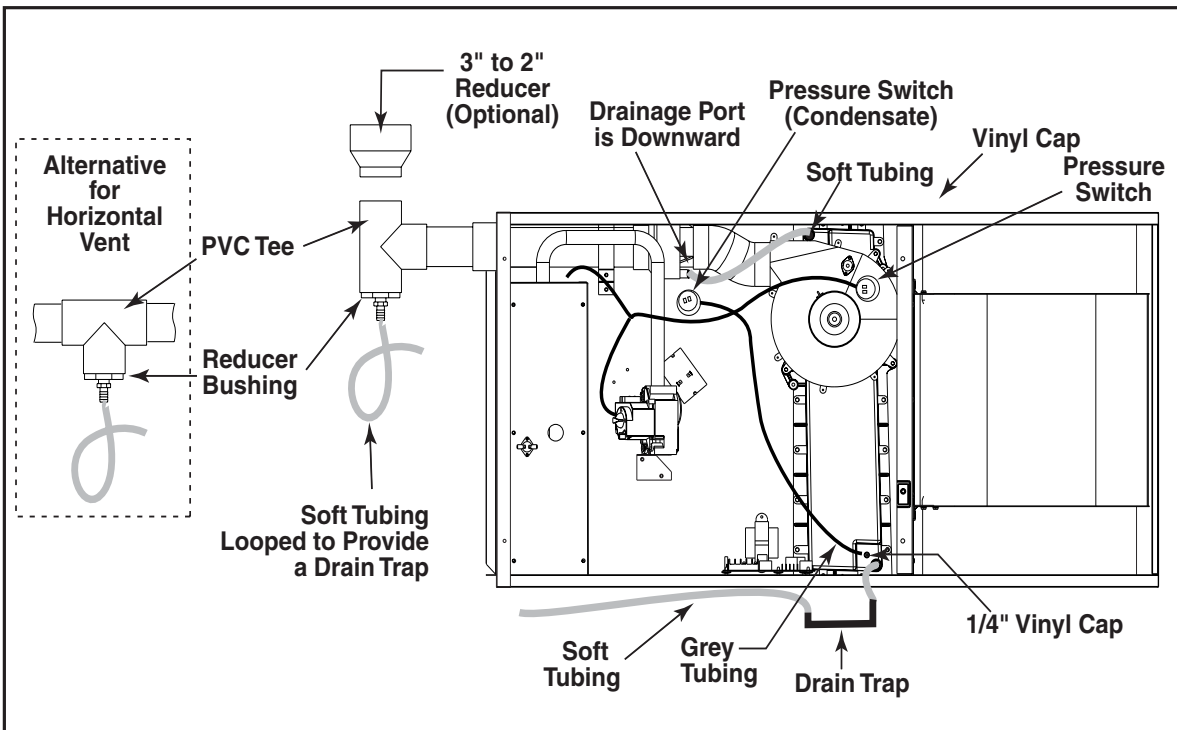

Figure 4. 90+ Upflow Converted for Horizontal Installation (Horizontal Left)
**NOTE:** When converting the furnace, to horizontal left, ensure that the drainage port on the in-line drain assembly is downward as shown in Figure 4. If the in-line drain assembly is not rotated, then the furnace may not drain properly.
Refer to Figure 4 for details and description of parts required for the horizontal left conversion. **NOTE:** The grey tubing assembly, 1/4” vinyl cap relocation, 5/8” vinyl cap and 1/2” vinyl cap are not required for horizontal left conversions.